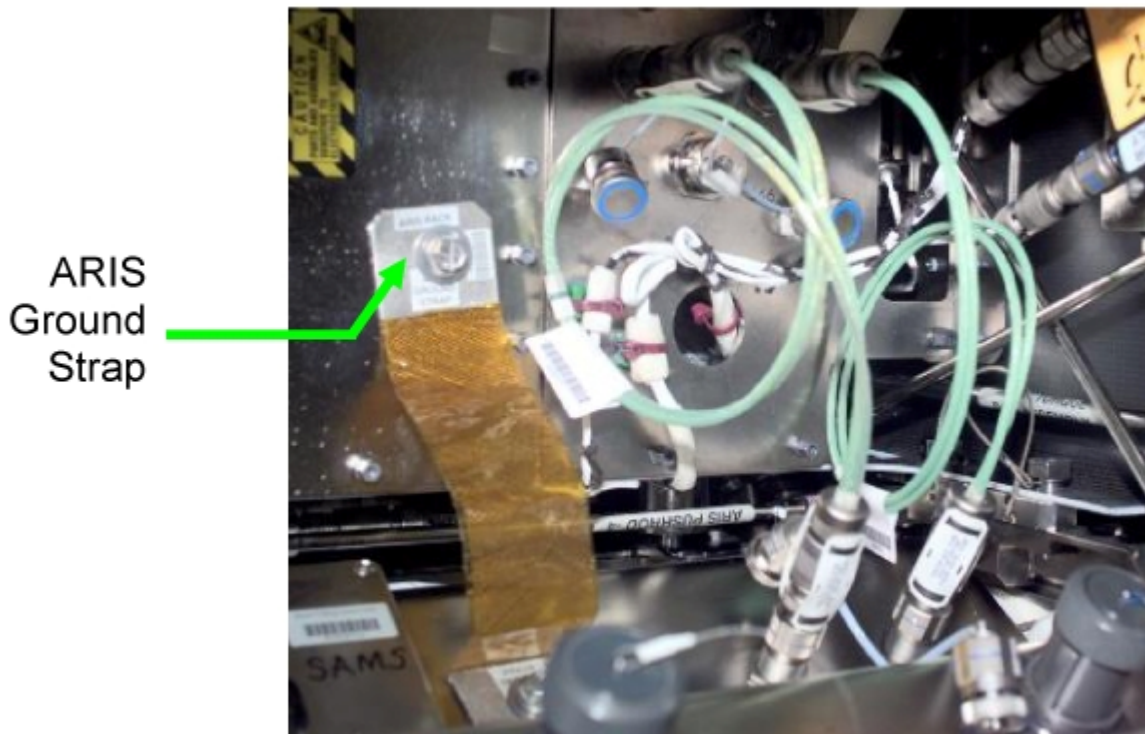

Figure 6. ARIS Ground Strap (Example Location).
- 8.1 Install ARIS Ground Strap on Standoff, Rack Utility Interface Panel, 1/4-Turn Fasteners (two) (4" Common Tip Screwdriver). Refer to Figure 6.